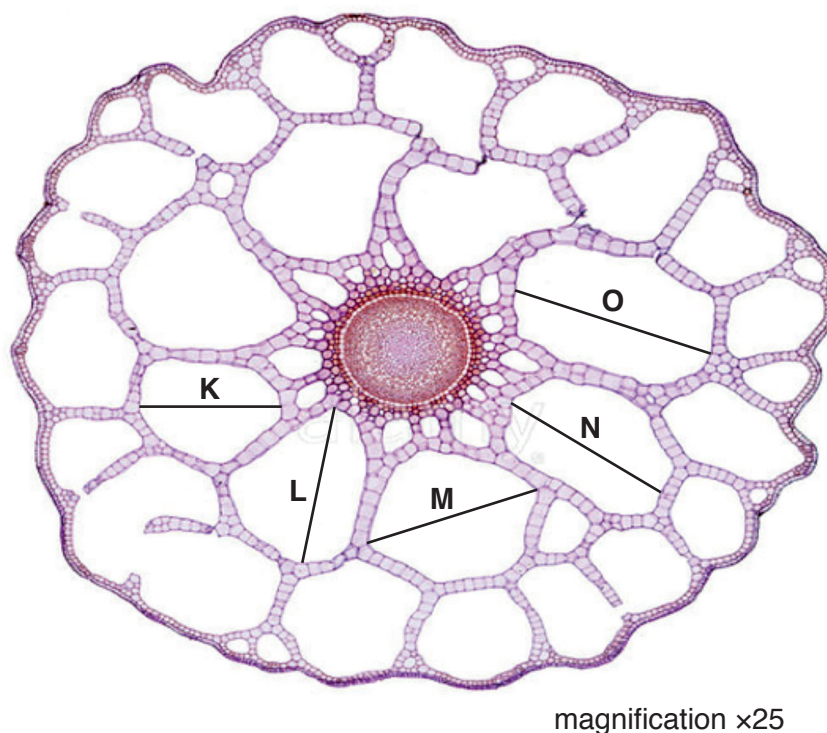

Fig. 2.2
- (b) Fig. 2.2 is a photomicrograph of a stained transverse section through a plant stem of a different type of plant.
- (i) Use the magnification and the lines in Fig. 2.2 to find the actual diameter, in μm , of the air spaces labelled **K**, **L**, **M**, **N** and **O**.
- (iii) A feature of the plant in Fig. 2.2 is the presence of air spaces in the plant stem.
- (c) Prepare the space below so that it is suitable for you to record the observable differences between the root on J1 and the stem in Fig. 2.2.